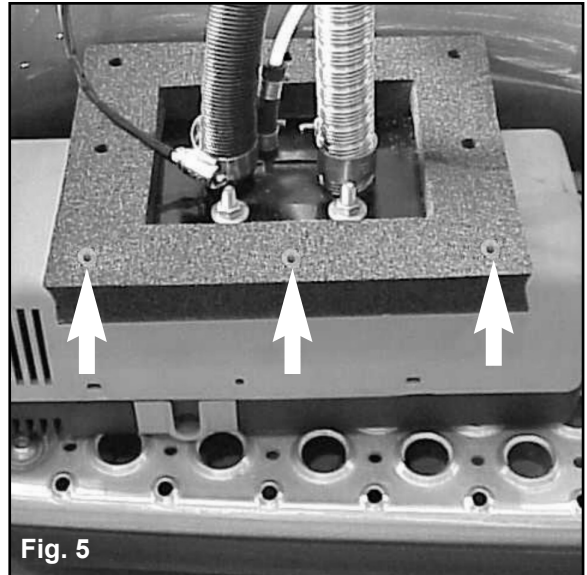

Fig. 5
- Install and clamp the exhaust tube and the combustion air inlet tube to the appropriate outlet and inlet on the heater. See figure 5.
- Insert one spacer (P/N 901424) in each of the six mounting holes in the foam gasket of the mounting plate (see arrows in figure 5).